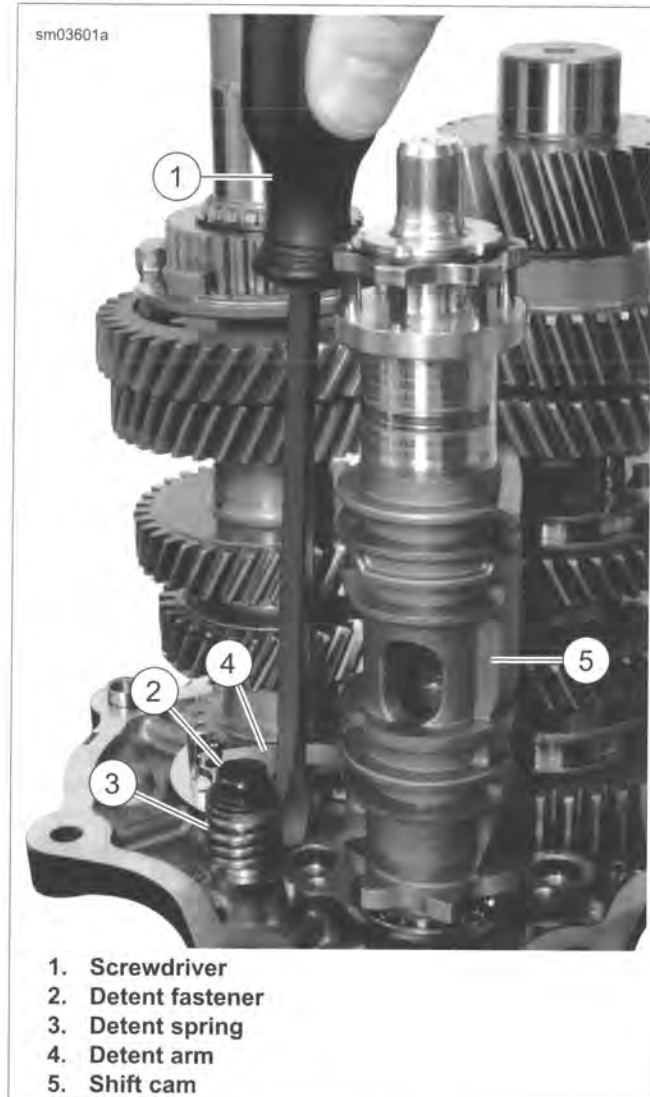
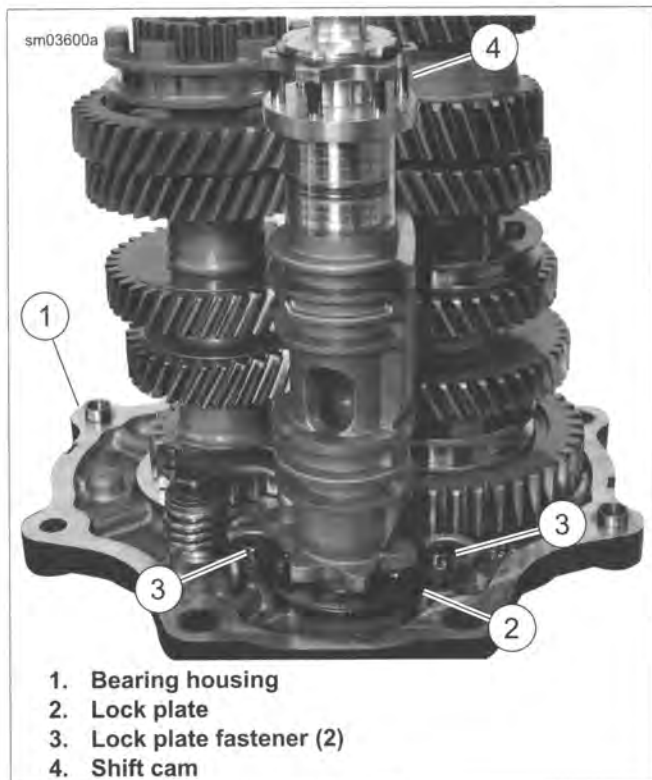

Figure 6-30. Detent Assembly
Figure 6-31. Shift Drum
- See Figure 6-30. Using screwdriver (1), pull detent arm back to allow installation of shift cam assembly.
7. Install shift cam assembly (5).
8. See Figure 6-31. Install lock plate (2) and **new** lock plate fasteners (3). Tighten to 57-63 **in-lbs** (6.4-7.1 Nm).